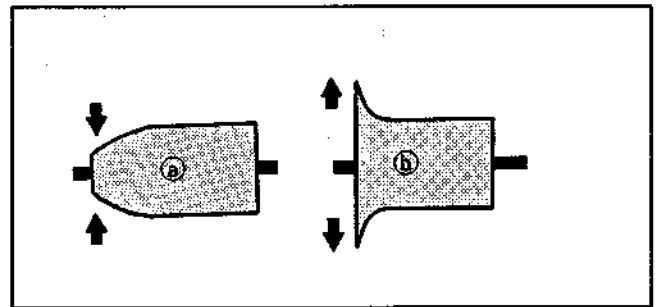

Fig. 4-7
- (2) Turn the No. 6 guide clockwise.
- (3) If the entrance portion of the waveform is as shown in Fig. 4-7 (a) and output is small, the direction that the tracking control knob is turned is correct.
If output is large as in Fig. 4-7 (b), the opposite direction is correct. (The direction varies depending on the model.)